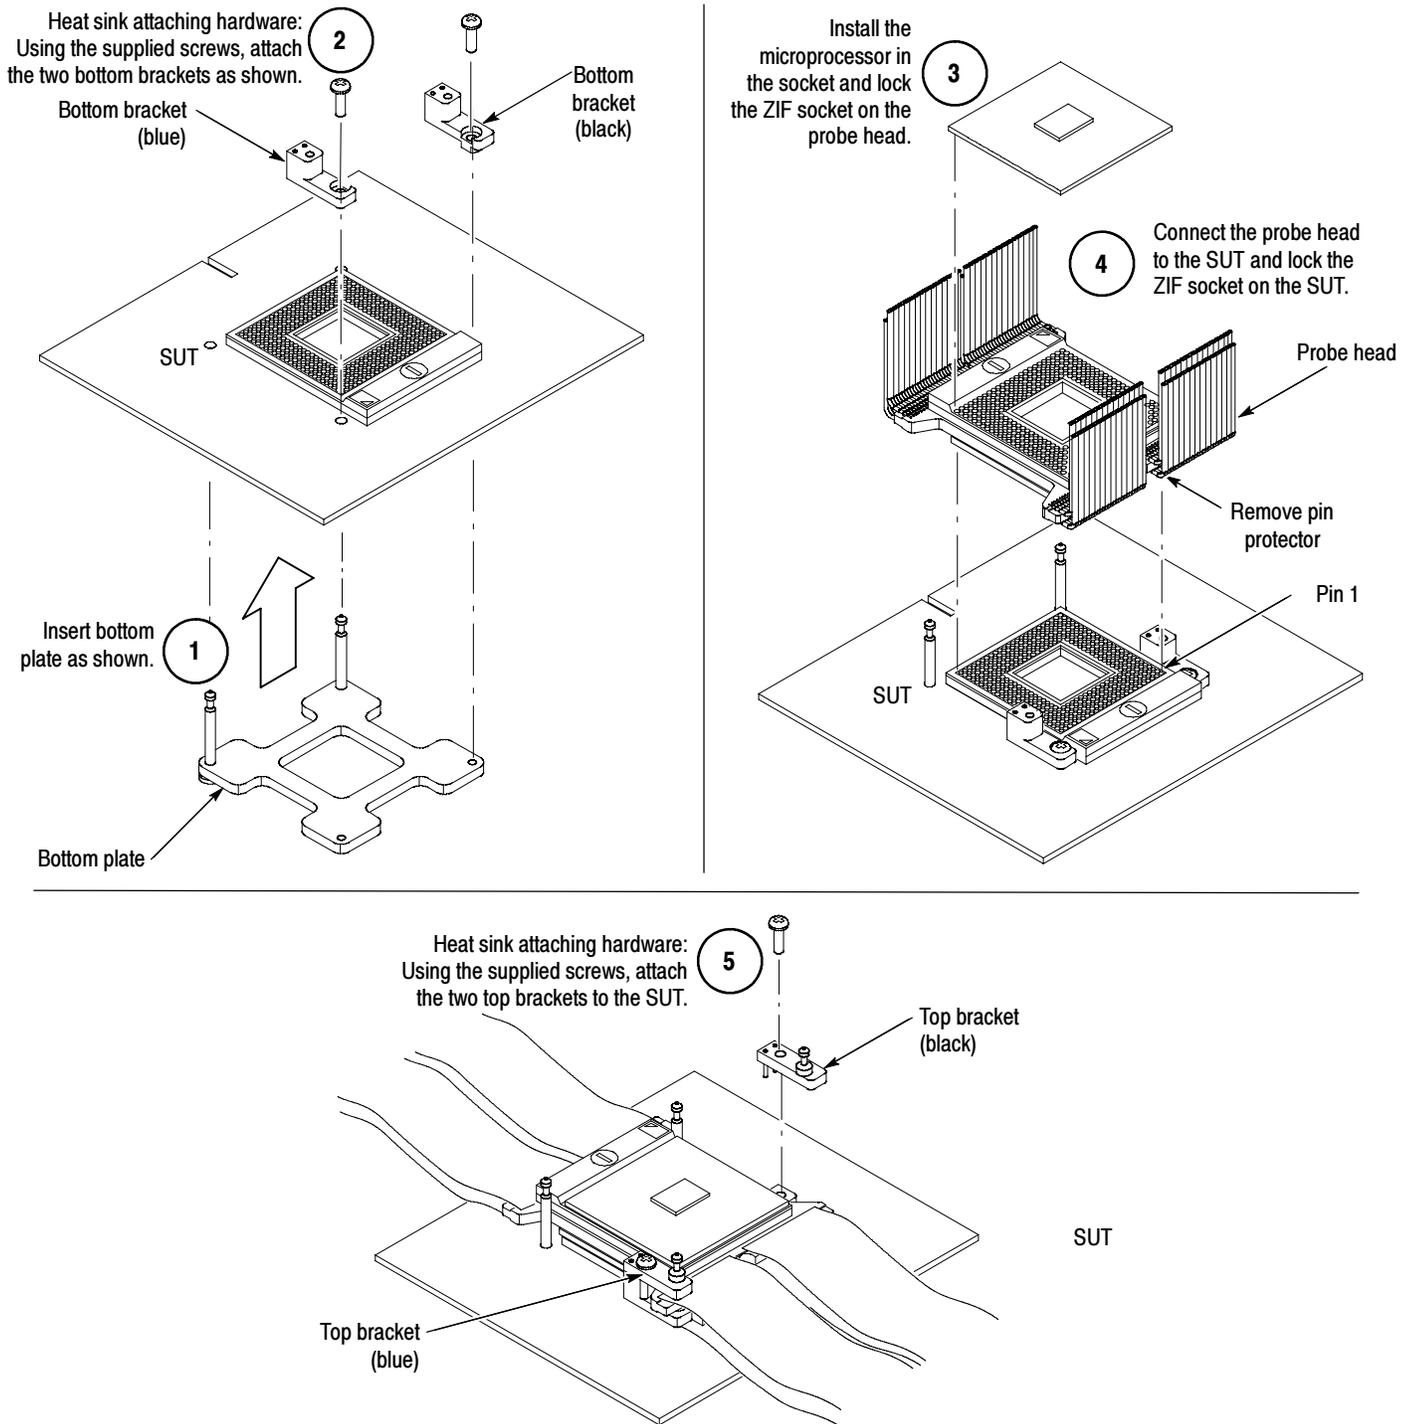

Figure 4: Probe head installation using Chipcool 1 & 2 heat sink hardware
To attach the probe head to the SUT use the Chipcool 1&2 heat sink attachment kit (020-2616-XX) and follow the steps shown in Figures 4 & 5 starting on page 7.
2. Reverse the steps in Figures 4 and 5 on pages 7 and 8 to remove the probe head.